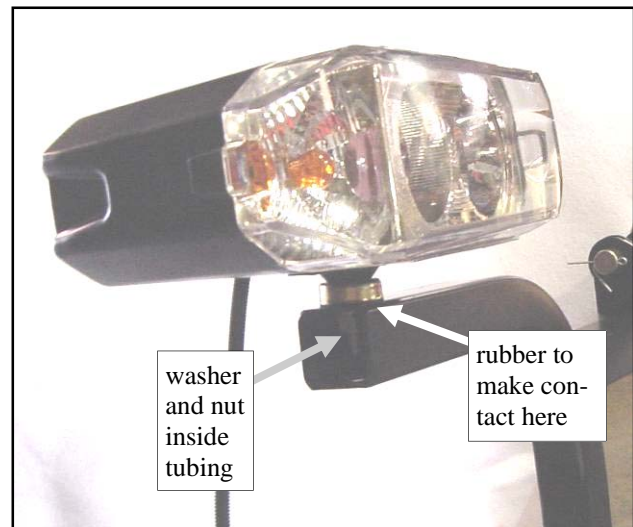

Fig. 9.2 (view of passenger's side)
9.2 Per fig. 9.2, loosely bolt the passenger's side head light to the top of the lift frame tubing facing forward. The above mentioned rubber washer assembly should be oriented so the exposed rubber face is down and sitting on top of the lift frame tubing with the cupped portion of the steel up to function as a swivel feature for aiming the lights in step 13 on page 15. Repeat for driver's side.